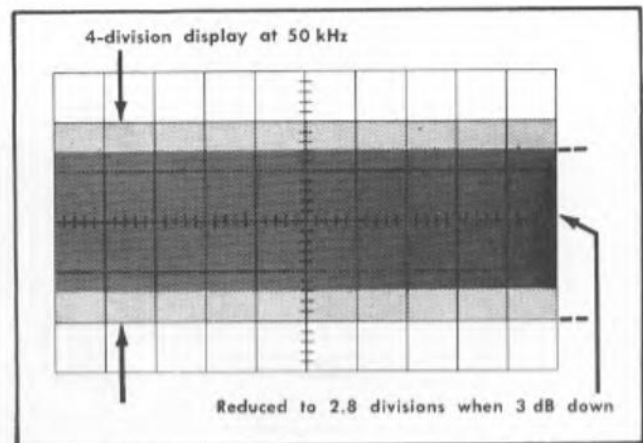

Fig. 7-17. Typical CRT display when checking frequency response.
- d. Increase the frequency until there is exactly 2.8 cm of deflection. See Fig. 7-17.